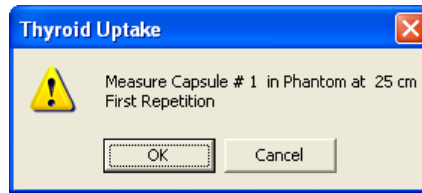

Figure 7-23
- a. Before starting a measurement, a pop-up screen prompting you to make the measurement similar to Figure 7-23 will appear. To cancel the measurement, click the  button on the pop-up screen.